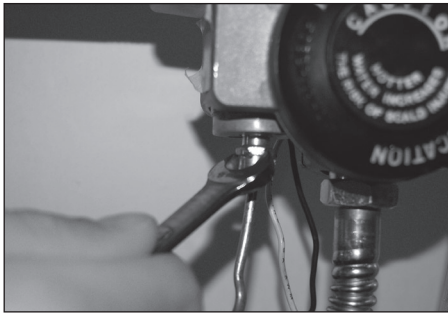

Figure 8
1. Remove the thermocouple from the gas valve. **Figure 8**